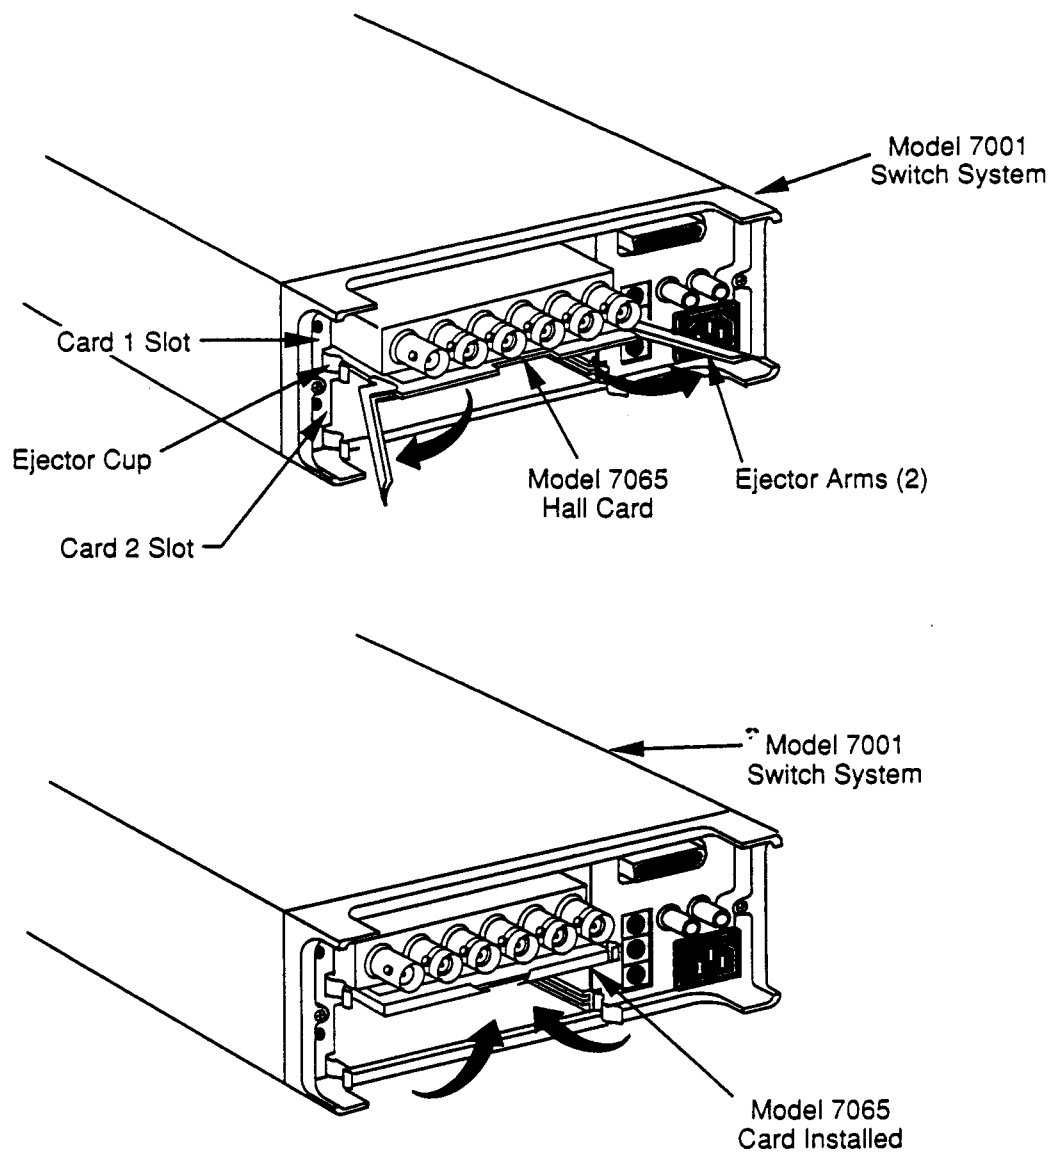

Figure 1. Installing the Model 7065 Hall Effect Card in the Model 7001 Switch System
Follow the steps below and refer to Figure 1 to install the Model 7065 Card in the Model 7001 Switch System. Note that some internal connections to the card must be made before installation. See paragraph 2.4 of the Model 7065 Instruction Manual for details on card connections.
3. Referring to Figure 1, slide the card assembly with the component (large shield) side up into the desired slot such that the edges of the card ride in the rails.